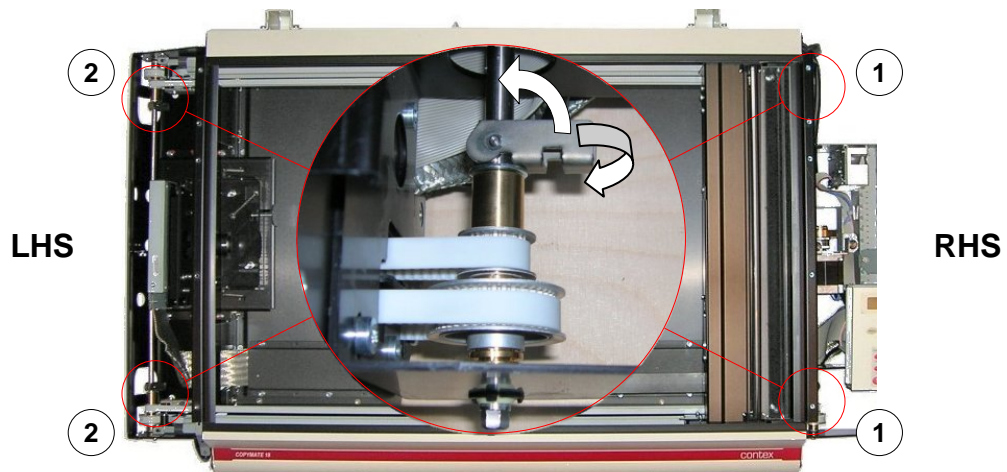

Fig. 4-10, Closing Lock Handles
- Close all 4 drive wheel lock handles in the following way (refer to Fig. 4-10 page 40):
- Close the RHS (1) lock handles while turning* these a little CW
- Close the LHS (2) lock handles while turning* these a little CW